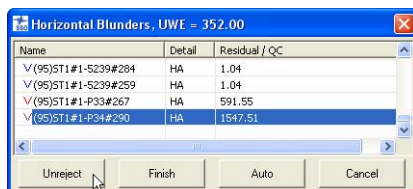

Figure 9-58. Unreject Blunders
- Select a component of the network and click **Reject** to delete from the adjustment process and restart the blunder analysis. Blunders rejected on the previous step are also displayed. To restore the deleted component, select this component and click **Unreject** (Figure 9-58)